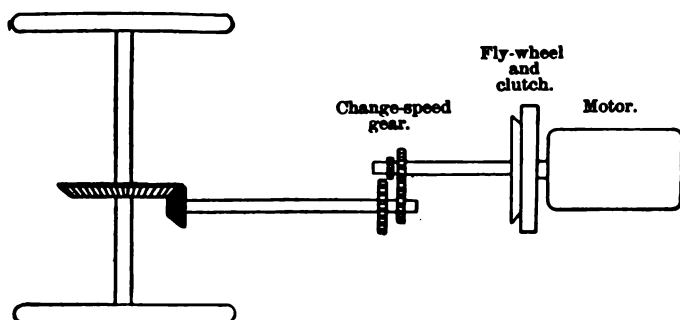

FIG. 72.—TRANSMISSION BY SHAFT TO LIVE REAR AXLE.
(2) Through a universal-jointed longitudinal shaft by bevel-gears direct to a live rear axle containing the differential. (See Fig. 72.) This, formerly the common American practise, is being abandoned in favor of the foreign system.